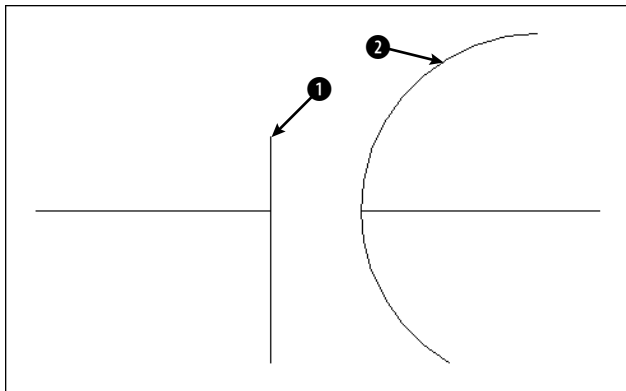

Figure 10-22: A poorly drawn capacitor symbol.
2. Save the file as ab10-07.dwg in your AutoCAD Bible folder. It is a capacitor symbol from an electrical schematic, as shown in Figure 10-22.
Select an object or [DElta/Percent/Total/DYNAMIC]: *Pick the line at 1 in Figure 10-22.*
Select an object to change or [Undo]: *Pick the line at ❶ in Figure 10-22.*
Select an object or [DElta/Percent/Total/DYnamic]: *Pick the arc at ❷ in Figure 10-22.*
Select an object to change or [Undo]: *Pick the arc at ❷ in Figure 10-22.*